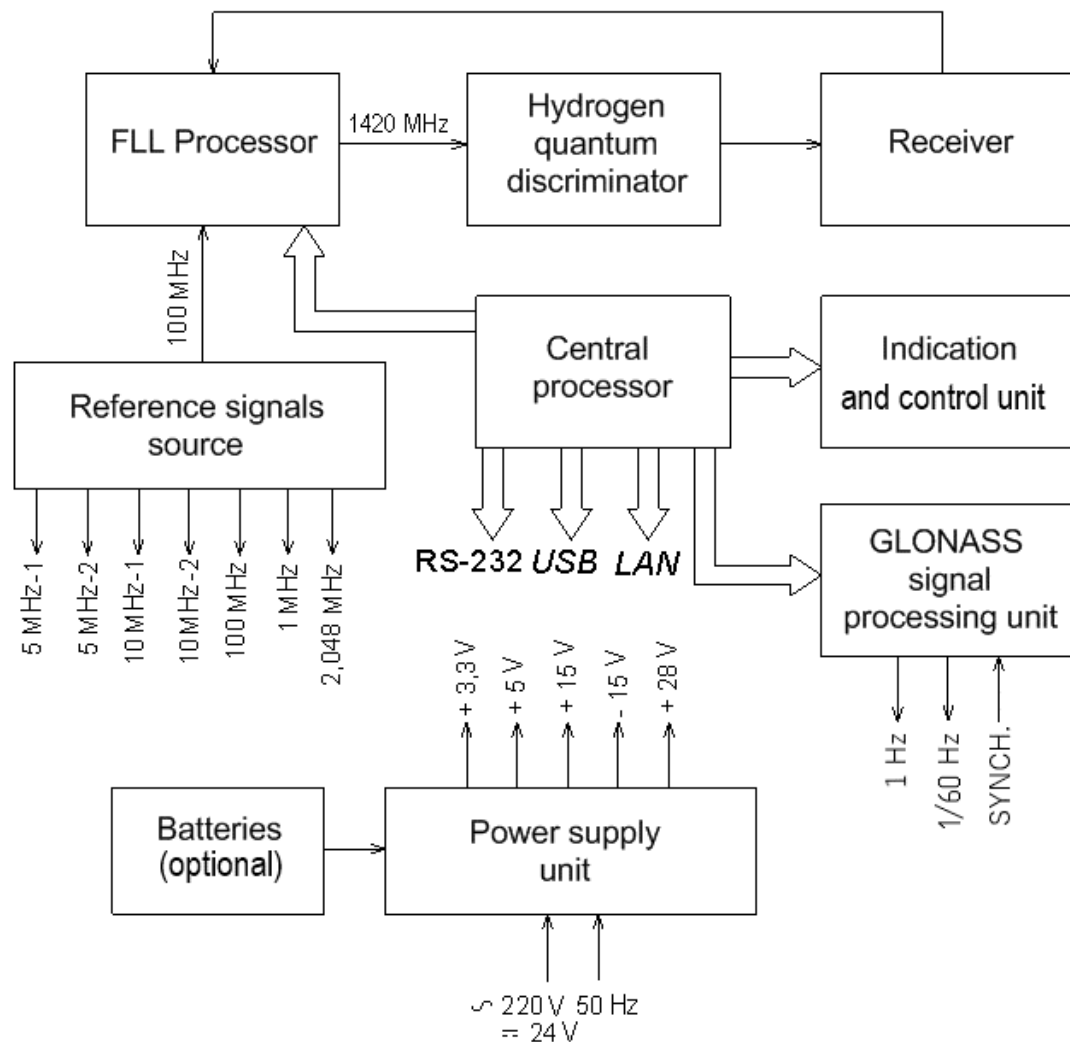

Fig. 1.2. VCH-1008 block-diagram
1.1.4.2 Hydrogen frequency and time standard VCH-1008 is a hydrogen standard of passive type. The principle of operation of the device is illustrated by the block-diagram in the Fig. 1.2.